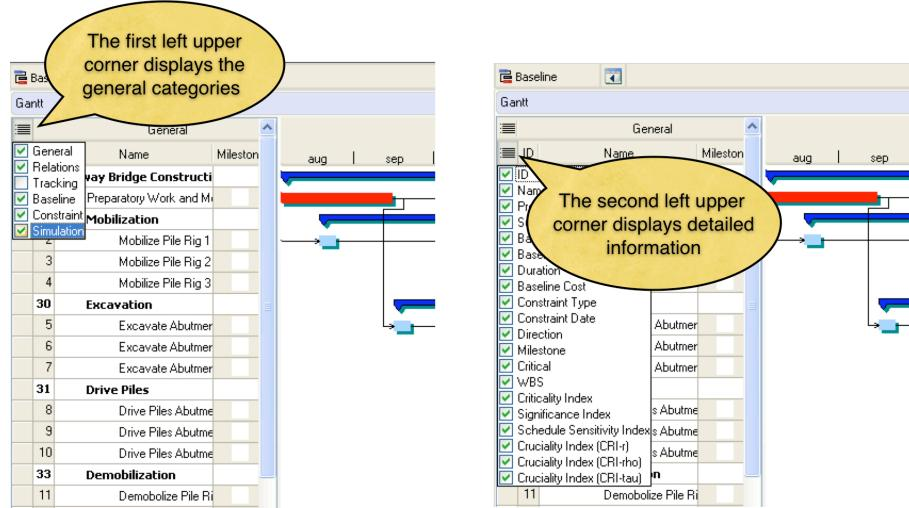

Figure 6. Changing the display of the Gantt chart grid
- * The fields of the Gantt chart grid (i.e. the table to the left of the Gantt chart) can be changed in the left upper corner of the grid. The first row of the left upper corner shows different data classes (general, baseline, tracking, etc.), while the second left upper corner displays the fields that can be shown in the data grid (see figure 6).